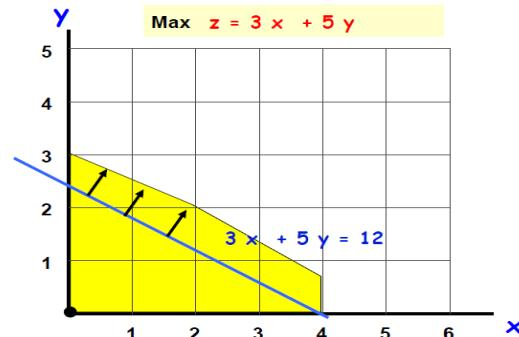

Figure 3.5: 5. Extreme arays and usages
- An **extreme ray** is like an edge, but it starts at a **extreme point** and goes on infinitely. (Fig. 3.5.)